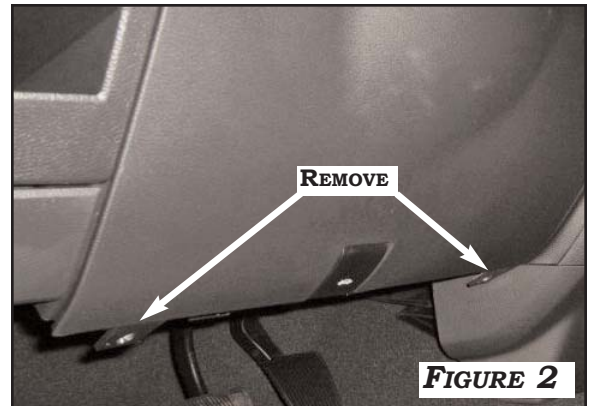

FIGURE 2
2. REMOVE LOWER DASH PANEL BY REMOVING (2) PHILLIPS SCREWS AS SHOWN IN **FIGURE 2**.